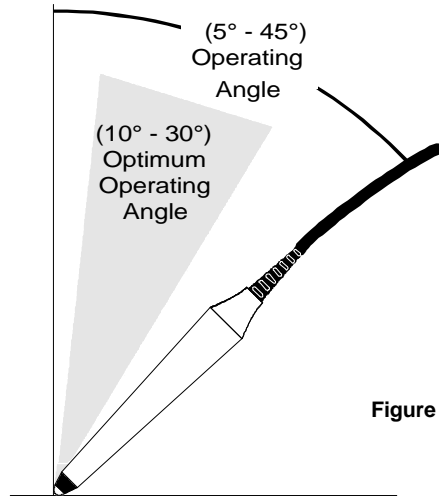

Figure 2
- 2) Hold the BCR in your hand as you would a pencil. The BCR works best when tilted from 10° to 30° , although any angle from 5° to 45° will work. See Figure 2.